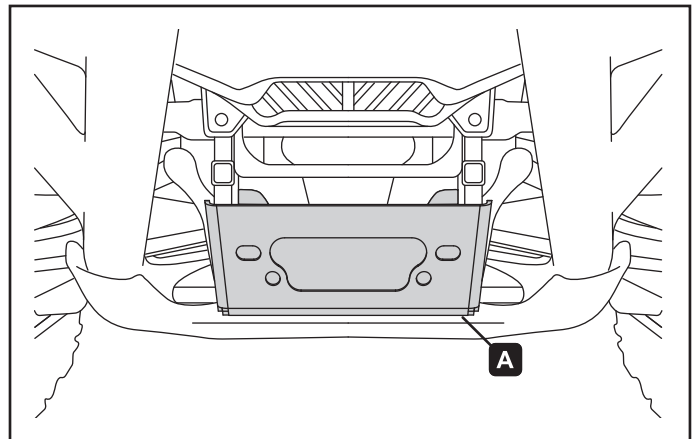

Figure 4. Mount location – all Wolverine models
2. Put winch mount (A) into place.
**Wolverine/Wolverine X2/Wolverine X4:** See figure 4.